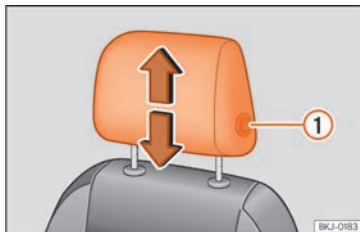
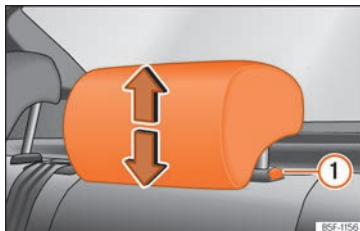

Fig. 104 Front seat: headrest adjustment.
Fig. 105 Rear headrest: headrest adjustment.
- Move the headrest up or down in the direction of the corresponding arrow. Regarding the rear headrest, to both raise and lower, press the button »» Fig. 104 ①; for the rear headrests it is only necessary to press the button »» Fig. 105 ① to lower them »» ⚠ in Introduction on page 125.
- Press the side button »» Fig. 104 ① and remove the headrest.